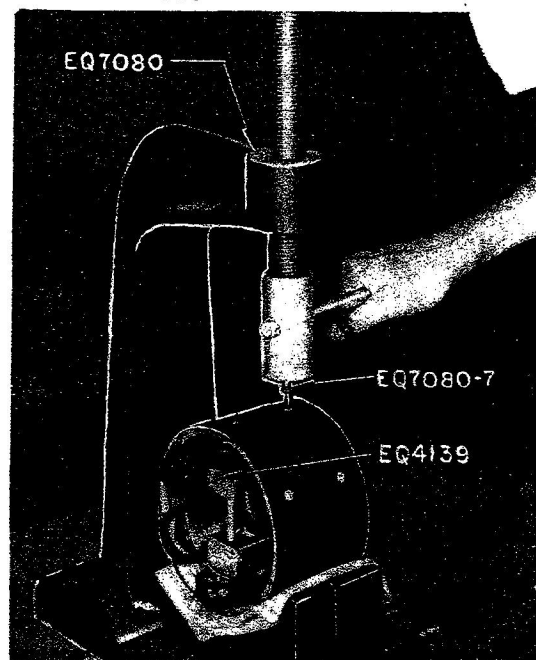

Figure 5-42 Tightening of Pole Shoe Screws
- 48 Closely examine the shunt field coil assembly. If the insulation is worn, burned, or cracked, replace the assembly, as outlined in following paragraph 52. Replace or resolder broken or loose terminals. If the pole shoe screws are loose, expand any two opposite pole shoes against the yoke with pole shoe expander EQ4139. Then, use screwdriver press EQ7080 with adaptor EQ7080-7, to tighten the pole shoe screws of the expanded pole shoes, see Figure 5-42. Repeat this operation for the remaining pole shoes. Check to make certain that plug gauge EQ7212 "goes", to insure proper armature clearance, see Figure 5-43.
(g) While the yoke assembly is still hot from baking, use pole shoe expander EQ4139 to expand any two opposite pole shoes and coils against the yoke. With the expander in place, use screwdriver press EQ7080 with adaptor EQ7080-7 to tighten the pole shoe screws of the expanded pole shoes, see Figure 5-42. Repeat this operation for the remaining pole shoes and coils. Then remove the expander and check to make certain that plug gauge EQ7212 "goes", to insure proper armature clearance, see Figure 5-43.